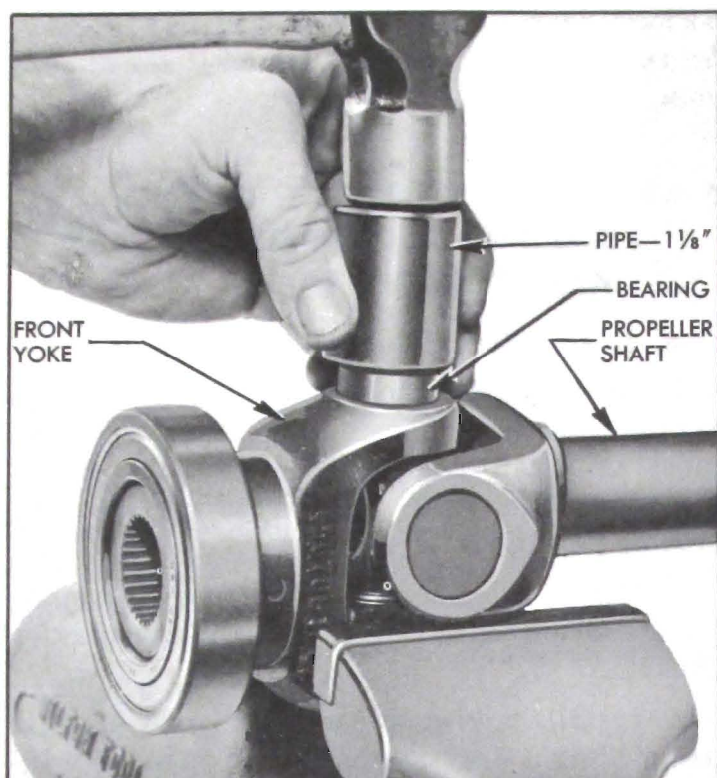

Figure 6-11—Removing Bearing from Front Yoke
2. Lay rear propeller shaft assembly on vise so that yoke welded to shaft bears against open jaws of vise. Shaft should be horizontal and front yoke must be free to move vertically between jaws of vise. See figure 6-11.